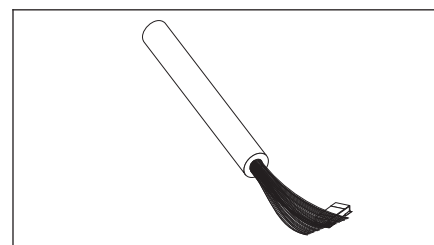

Figure 1 Flux Component
4. Apply flux to the component terminations. (See Figure 1.)